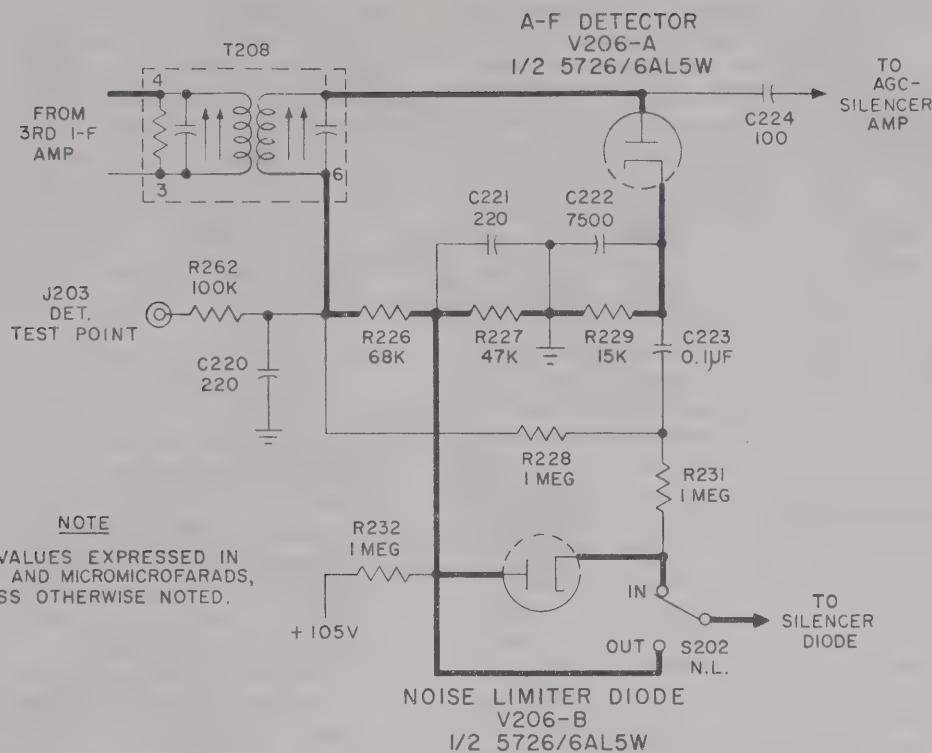

Figure 2-8. A-F Detector and Noise Limiter Circuits, Simplified Schematic Diagram
c. AUDIO-FREQUENCY DETECTOR.—The audio-frequency detector, V206-A, is one half of a type 5726/6AL5W twin diode; see figure 2-8. The i-f signal from terminal 1 of transformer T208 is applied to the diode plate. Resistors R226, R227 and R229, connected between the diode cathode and terminal 6 of T208, constitute the diode load. These resistors are bypassed for radio frequencies by capacitors C220, C221 and C222. The audio-frequency output, obtained from the junction of resistors R226 and R227, is applied through the noise-limiter diode and the silencer diode (either or both of which can be disabled—the noise limiter mechanically and the silencer electrically) to the grid of the first a-f amplifier.
d. NOISE LIMITER.—Diode V206-B, one half of a 5726/6AL5W twin diode, functions as a series-valve noise limiter and is connected between the a-f detector and the silencer diode; see figure 2-8. The N.L. (noise limiter) switch, S202, enables the operator to cut the noise limiter in or out of the receiver circuit, as determined by operating conditions. When S202 is in the OUT position, the audio signal obtained at the junction of resistors R226 and R227 is applied directly to the